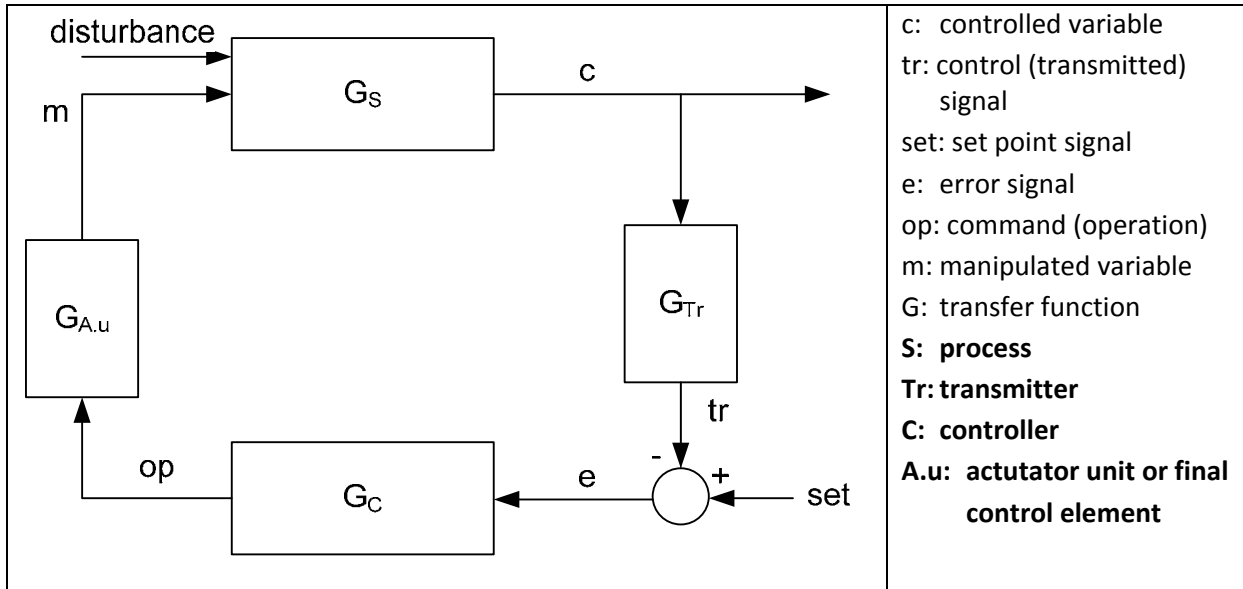
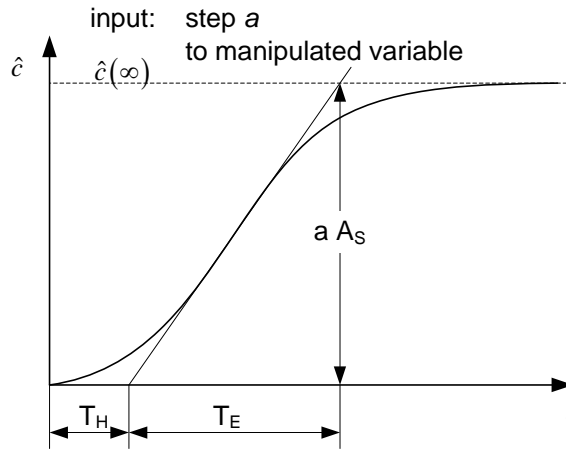

Figure 1. Block diagram of a negative feedback loop
Figure 2. Step response function of a multi capacity.
The main aim of process control is automatization of a process. This means that one or more process variables have to be kept on a prescribed level despite of external disturbances in order to maintain a stable operation. Figure 1 shows the common block diagram of a negative feedback loop.
with the parameters dead time (T_H), effective time constant (T_E) and steady state process gain (A_S). The parameters of the process model can be determined from the process reaction curve, as shown in Figure 2. The process reaction curve is the open loop response of the controlled variable (c on Fig 1.) to a unit step input in the manipulated variable (m on Fig. 1.). All elements of the control loop must be included in the response, except the controller.
1. Compile and close the control loop (see Figure 1.) Set the set point of the controller.